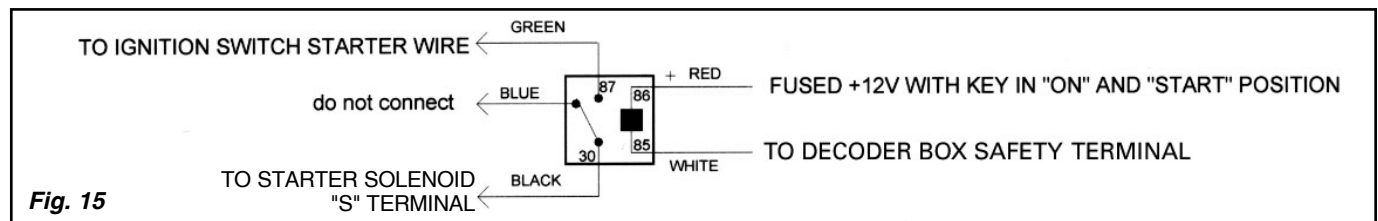

Fig. 15
The WHITE wire from the relay connects to the "SAFETY" terminal on the decoder box. The RED wire connects to the power wire for the decoder box. For the neutral safety switch to operate properly, the "POWER" terminal on the decoder box must have power when the key is in both the "ON" (or "RUN") and "START" positions. **Fig. 15**
- Step 25:** Following the wiring diagram in **Fig. 15**, connect the rest of the wires from the LED indicator to the decoder box.